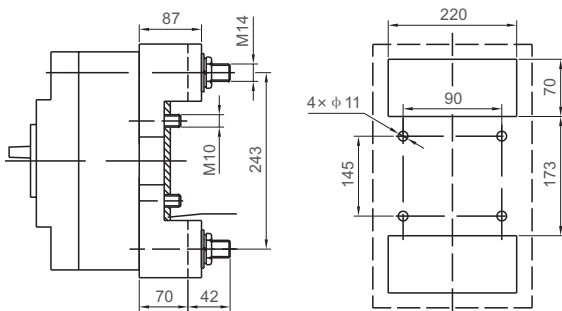

Fig 11 RDM1-800 3P Insert type overall and installation open hole diagram
6.4 RDM1 Insert type's overall and installation open hole dimension, see Fig 10, Fig 11 and Table 11